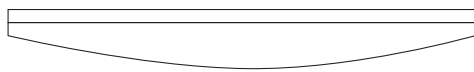
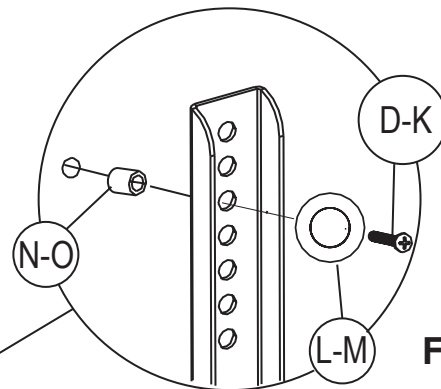

Fig. 1d
Fig. 1e
If your television has a curved back, and the mounting holes are recessed (Fig 1d) spacers are required. Install the proper size **Spacers (N-O)** between the TV rear and the bracket structure as shown in Fig 1e. Then use the selected **Bolts (D-K)**, **Washers (L-M)** and the **Allen wrench (P)** to attach the bracket structure (with the spacers between the bracket and the TV) to the TV as shown in Fig 1f. Make sure the bracket structure is properly aligned on the rear of the TV and securely tighten the bolts. Do not over tighten.